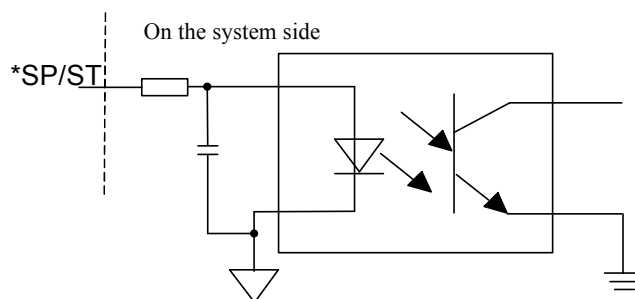

Figure 4-11-1
* See Figure 4-11-1 below for the internal circuit for the SP/ST signal: